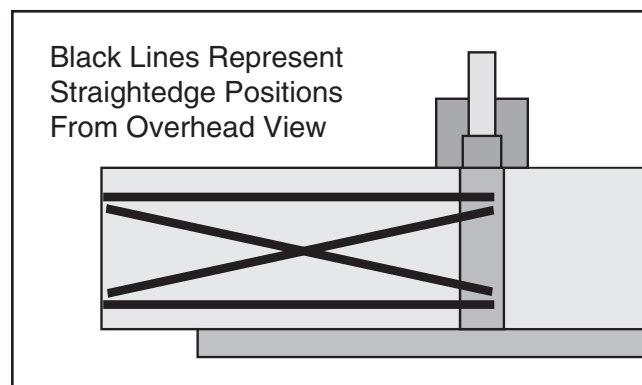
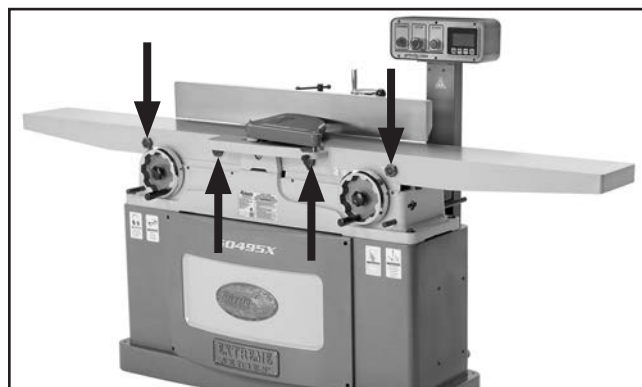

Figure 35. Straightedge positions for verifying if outfeed table is parallel with cutterhead.
Figure 40. Front eccentric bushings.
6. Place the straightedge in the positions shown in **Figure 35**. In each position, the straightedge should touch the cutterhead body and sit flat on the outfeed table.
4. Place the straightedge in one of the positions shown in **Figure 35**, and adjust the table by turning the eccentric bushings (**Figures 40 & 41**) as needed with an adjustable wrench so that the straightedge touches the cutterhead while lying flat across the outfeed table. Repeat this step with each of the remaining straightedge positions as many times as necessary until the outfeed table is parallel with the cutterhead to within 0.010"-0.012".